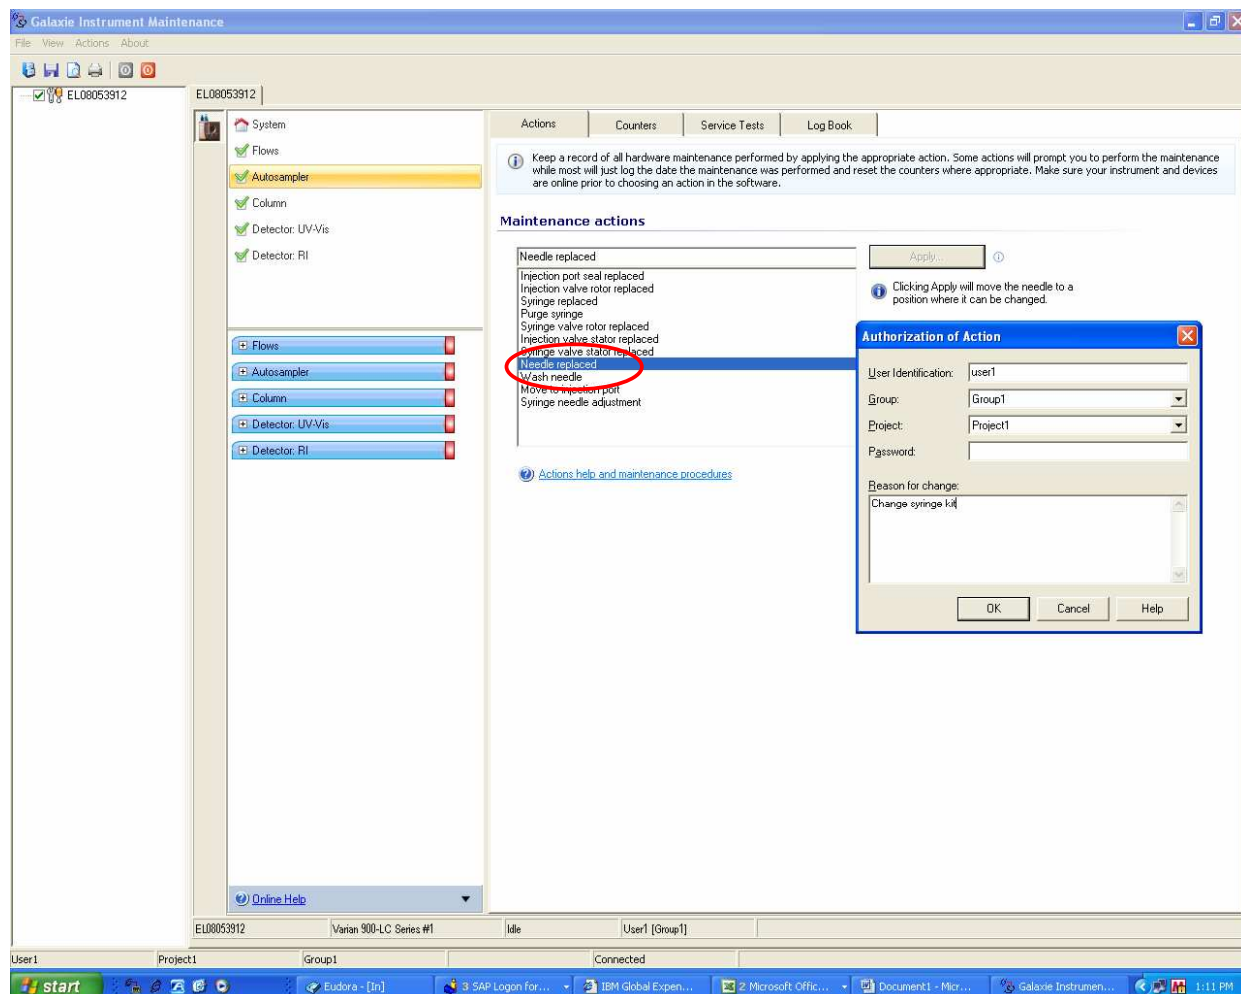

Figure 1: Needle Replace position in IMS
1. Open Galaxie software and move the needle to the 'needle replace' position (See Fig. 1). Then switch off the instrument.